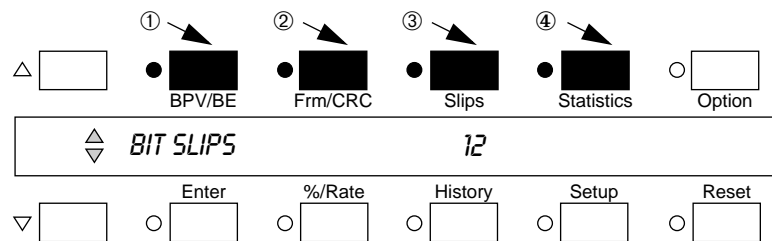

Figure 5-2 Error Monitor area of the front panel showing error and analysis keys
Pressing the BPV/BE key (① in Figure 5-2) twice displays the count of *BPVS* (bipolar violations). The Up and Down arrow keys toggle between *BPVS* and *BITERRORS*. If you are not receiving QRSS, and you toggle to *BITERRORS*, the display reads *BITERRORSN/A*.
Pressing the Frm/CRC key (② in Figure 5-2) twice displays the number of *FRAMEERRORS*. The Up and Down arrows scroll between *FRAMEERRORS*, *CRCs*, and *FRAMELOSSES*. CRC errors are only valid in ESF framing type; the display reads *CRCN/A* when in D4 framing.
Pressing the Slips key (③ in Figure 5-2) twice displays *FRAME SLIPS*. The Up and Down arrows toggle between *FRAME SLIPS* and *BIT SLIPS*. If you are not receiving carrier on both inputs, the display reads *FRAME SLIPSN/A* or *BIT SLIPSN/A* as appropriate. See Appendix A for more details on slips.
Pressing the Statistics key (Ⓞ in Figure 5-2) twice takes you to the top of the statistics display. All statistics are calculated on live traffic errors, except in block History mode. When in block History mode, the statistics are calculated on the error information contained in the selected 15-minute block. Block History mode is discussed in Section 6.3.